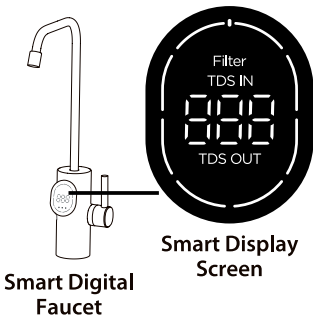

Figure 1
2. Slide the Locking clip between the quick-connect release and the fitting (Fig.1).
1. The system is powered on: All indicators flash 5 times (Fig. 1).